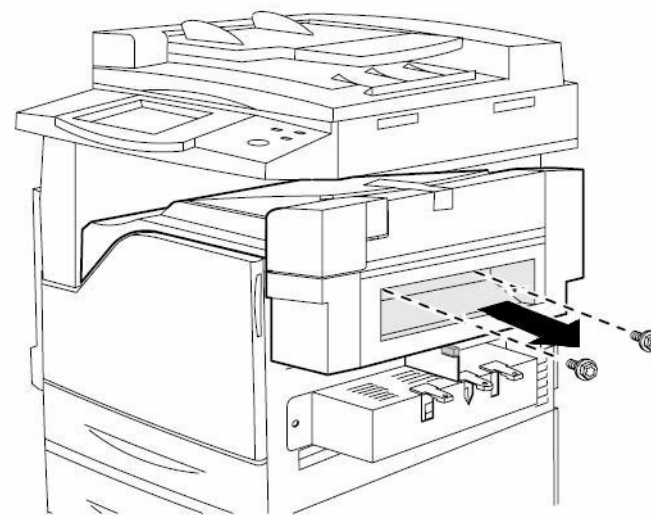

Figure 2 Removing Finisher H-Transport Assembly screws (2)
5. Remove (2) screws (Figure 2).